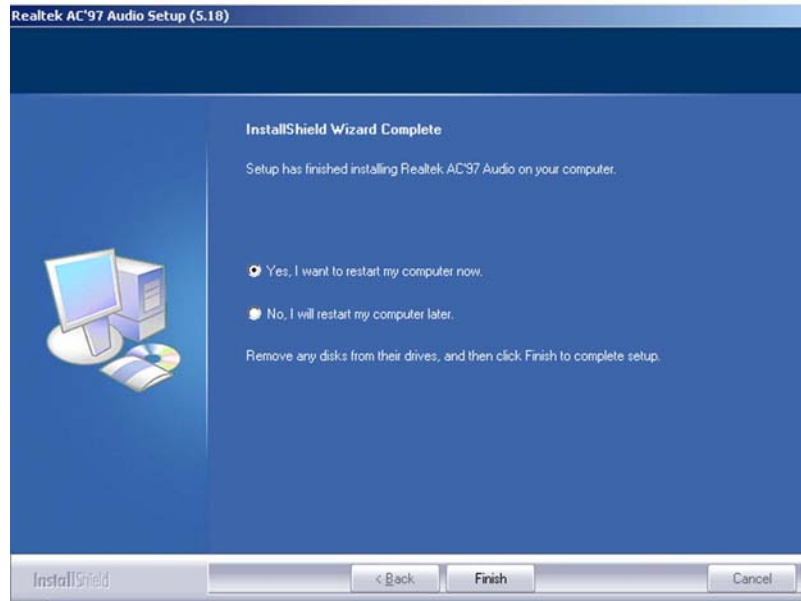

Figure 7-34: AC'97 Audio Driver Installation Complete
Step 9: After the driver installation process is complete, a confirmation screen shown in **Figure 7-34** appears.
Step 10: The confirmation screen shown in **Figure 7-34** allows you to restart the computer immediately after the installation is complete or to restart the computer later. For the settings to take effect the computer must be restarted. Once you have decided when to restart the computer, click the **"FINISH"** button.